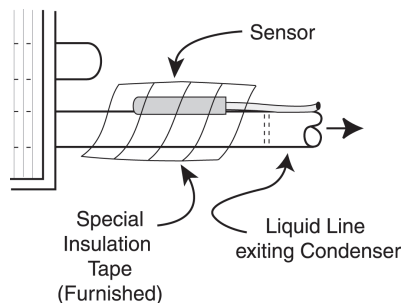

Figure 1 - Sensor Installation Cross Section Diagram
- E.** Install the supplied 10K Sensor to the top of liquid line where the line exits the condenser coil as shown below in **Figure 1, Sensor Installation Cross Section Diagram**.